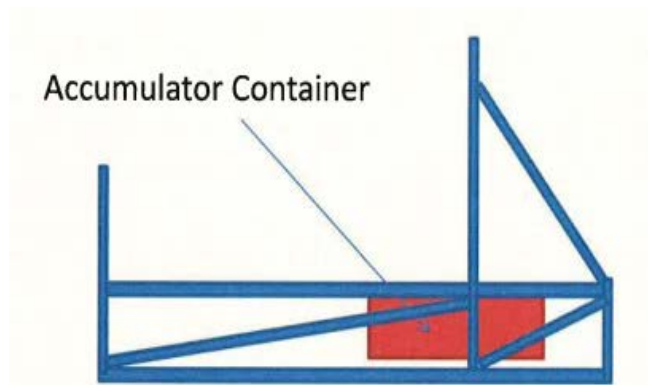

Fig.1
**Fig.1 is according to the rules.**